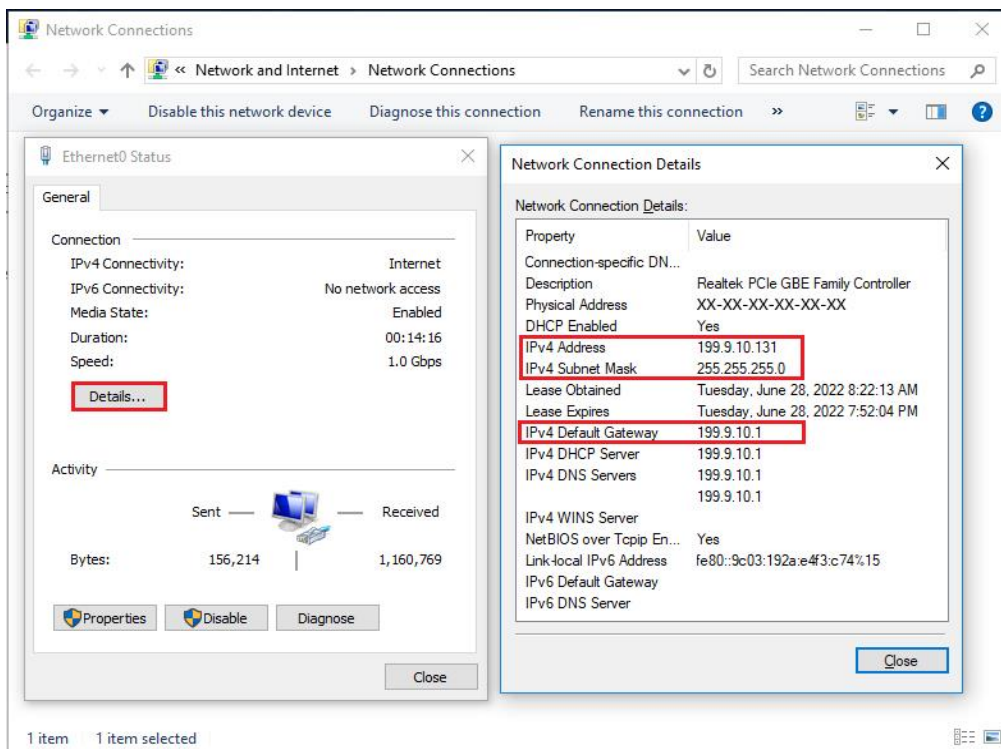

Figure 2-27 Check the LAN information
2. Check the LAN information. See Figure 2-27.